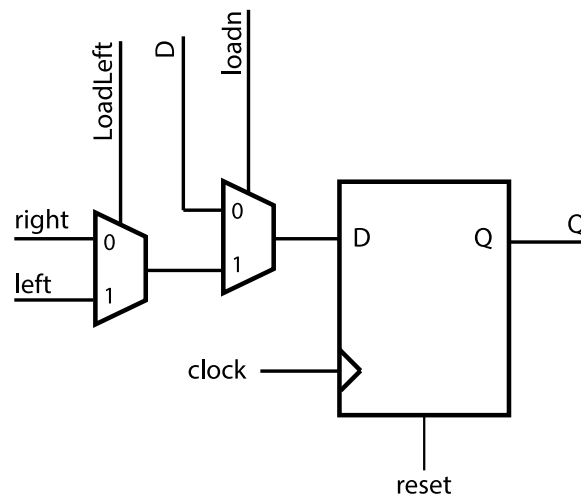
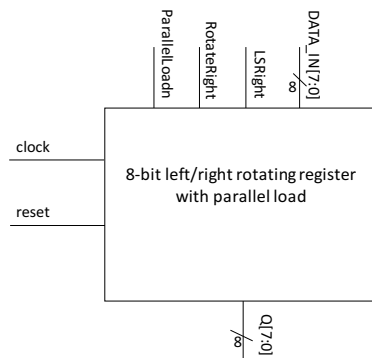

Figure 5: Sub-circuit for Part III.
Figure 6: Top-level circuit for Part III.
Figure 5 shows a positive edge-triggered flip-flop with several multiplexers. In this part of the lab, you will use eight instances of the circuit in Figure 5 to design a left/right 8-bit rotating register with parallel load shown in Figure 6.
The *LoadLeft* input of all eight instances of the circuit in Figure 5 should be tied to the single rotating register input *RotateRight* because when you want to rotate the bits right, you have to load the bit to the left. The *loadn* input of all eight instances should be tied to the single rotating register input *ParallelLoadn*. The *clock* input of all eight instances should be tied to the single rotating register input *clock*. Create an 8-bit-wide rotating register input *DATA_IN*, whose individual wires *DATA_IN₇* to *DATA_IN₀* are tied to the *D* input of each instance of the circuit in Figure 5. Likewise, create an 8-bit-wide rotating register output *Q*, whose individual wires *Q₇* to *Q₀* are tied to the *Q* output of each instance of the circuit in Figure 5.
The remaining connections between the eight instances of the circuit in Figure 5 should realize the following behaviour:
1. Draw a schematic for the 8-bit rotating register with parallel load. Your schematic should contain eight instances of the sub-circuit in Figure 5 and all the wiring required to implement the desired behaviour. Label the signals on your schematic with the same names you will use in your Verilog code.
2. Starting with the code in Figure 2 for a flop flop, modify it to have an *active-high* synchronous reset. Combine this new flip flop with instances of the *mux2to1* module from Lab 2 to build the sub-circuit shown in Figure 5. To get you started, Figure 7, is a sample of hierarchical code showing the D flip flop with one of the 2-to-1 multiplexers connected to it.
4. Write a Verilog module for the rotating register with parallel load that instantiates eight instances of your Verilog module for Figure 5. This Verilog module should match with the schematic in your lab book.